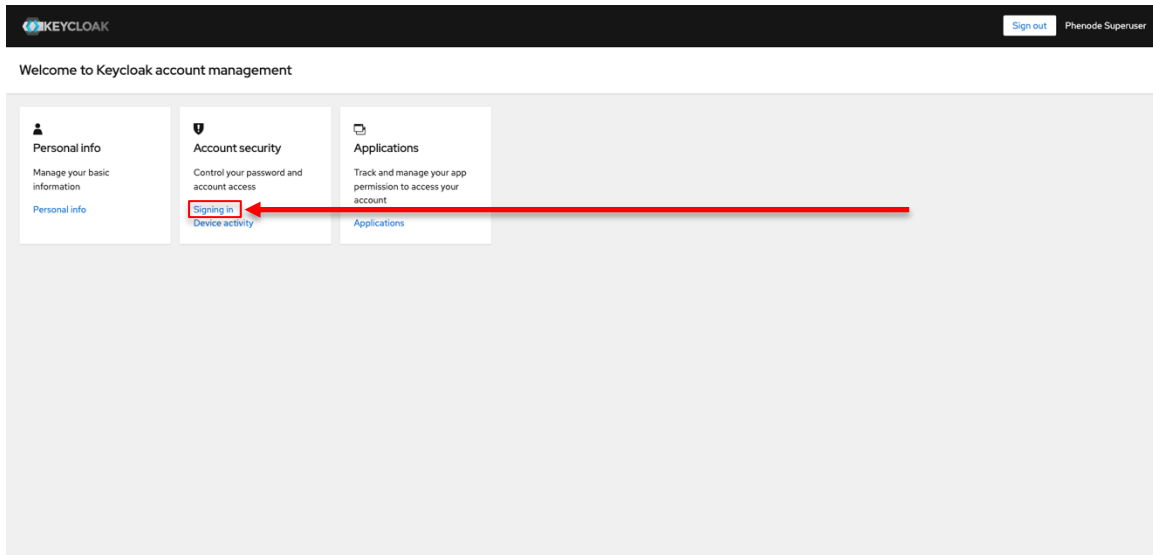

Figure 7. Keycloak account management screen
4. Under “Account Security”, click “Signing In” (Figure 7)